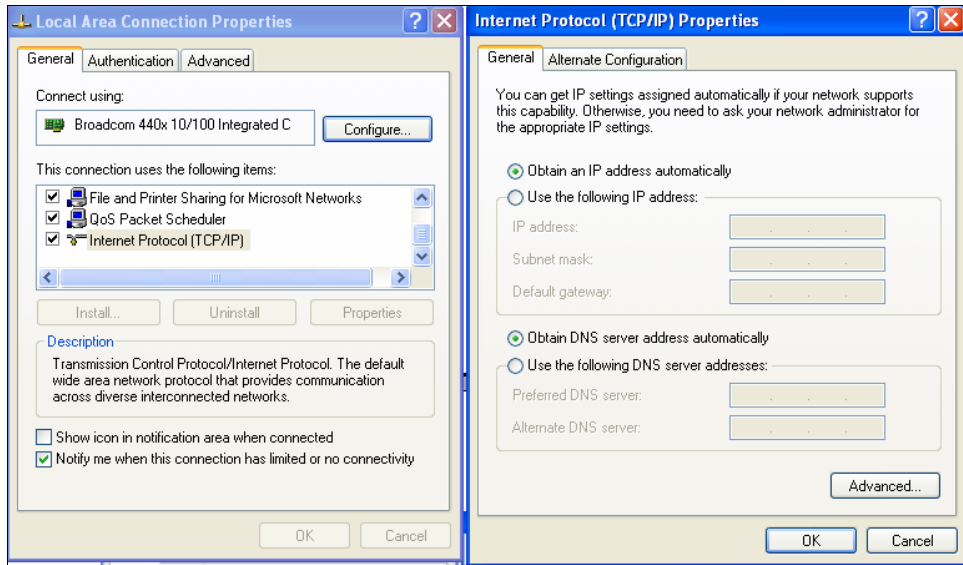

FIGURE 1-5: INTERNET PROTOCOL PROPERTIES DIALOGUE BOX
e) Click **OK** on all windows opened during this process to proceed (see Figure 1-5).